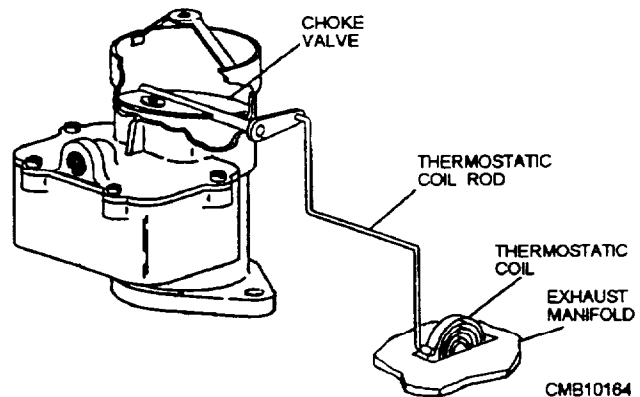

Figure 4-35.—Well-type exhaust-heated choke.
- **WELL-TYPE HEATED** (fig. 4-35) mounts the thermostatic spring in the top of the exhaust manifold. As the engine and manifold warms, the thermostatic spring uncoils to open the choke.